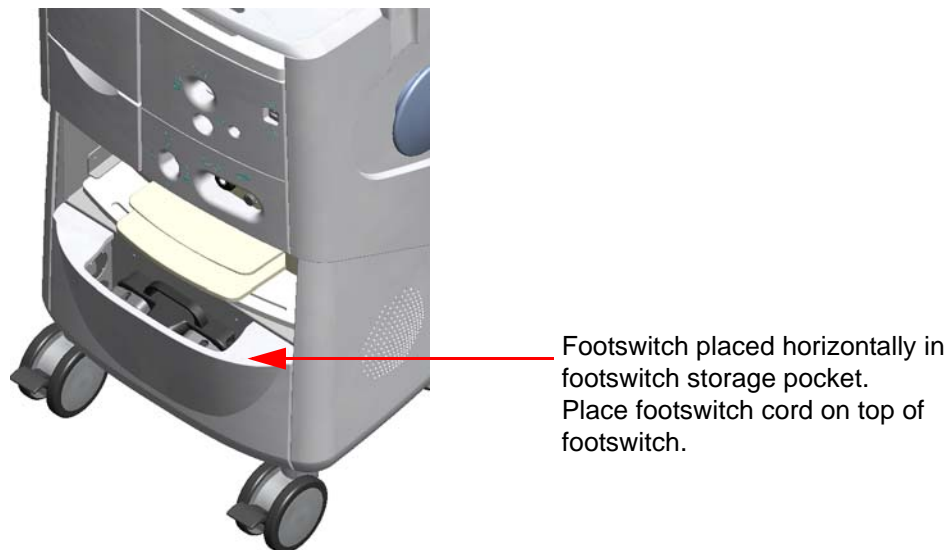

Figure 8 Footswitch pocket
7. Return the footswitch to the footswitch pocket (See Figure 8).